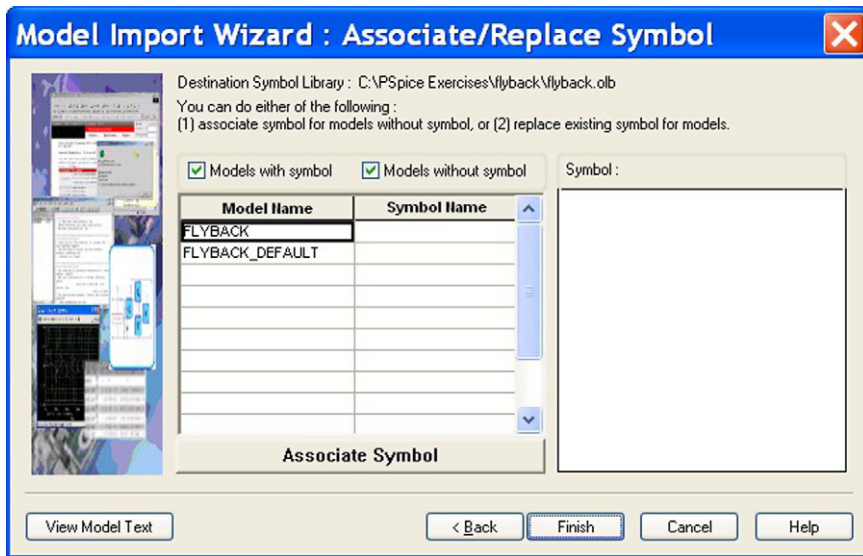

FIGURE 21.22
5. In the Associate/Replace Symbol window (Figure 21.22), click on Associate Symbol. Select the Flyback model and click on Associate Symbol.